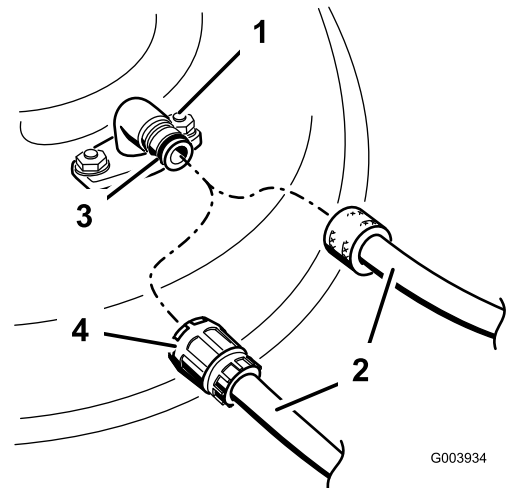

Figure 59
3. Attach the hose coupling to the end of the mower washout fitting, and turn the water on high (Figure 59).